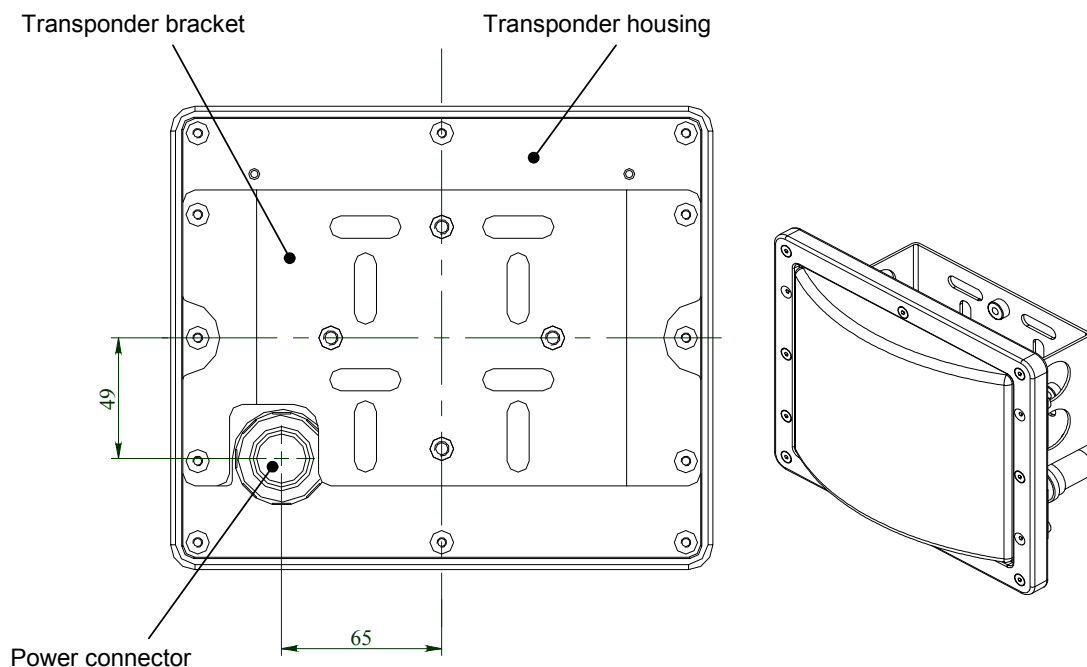

Figure 9 Transponder, rear and side view
1. For installation of the Transponder in a mast, pole or to a rail use the enclosed clamps as shown in Figure 9. Fasten the unit to a mast, pole or rail using the enclosed 2-inch clamps. If wall mounted, remember to make a hole in the wall for entering the power cable to the connector at the rear of the Transponder.